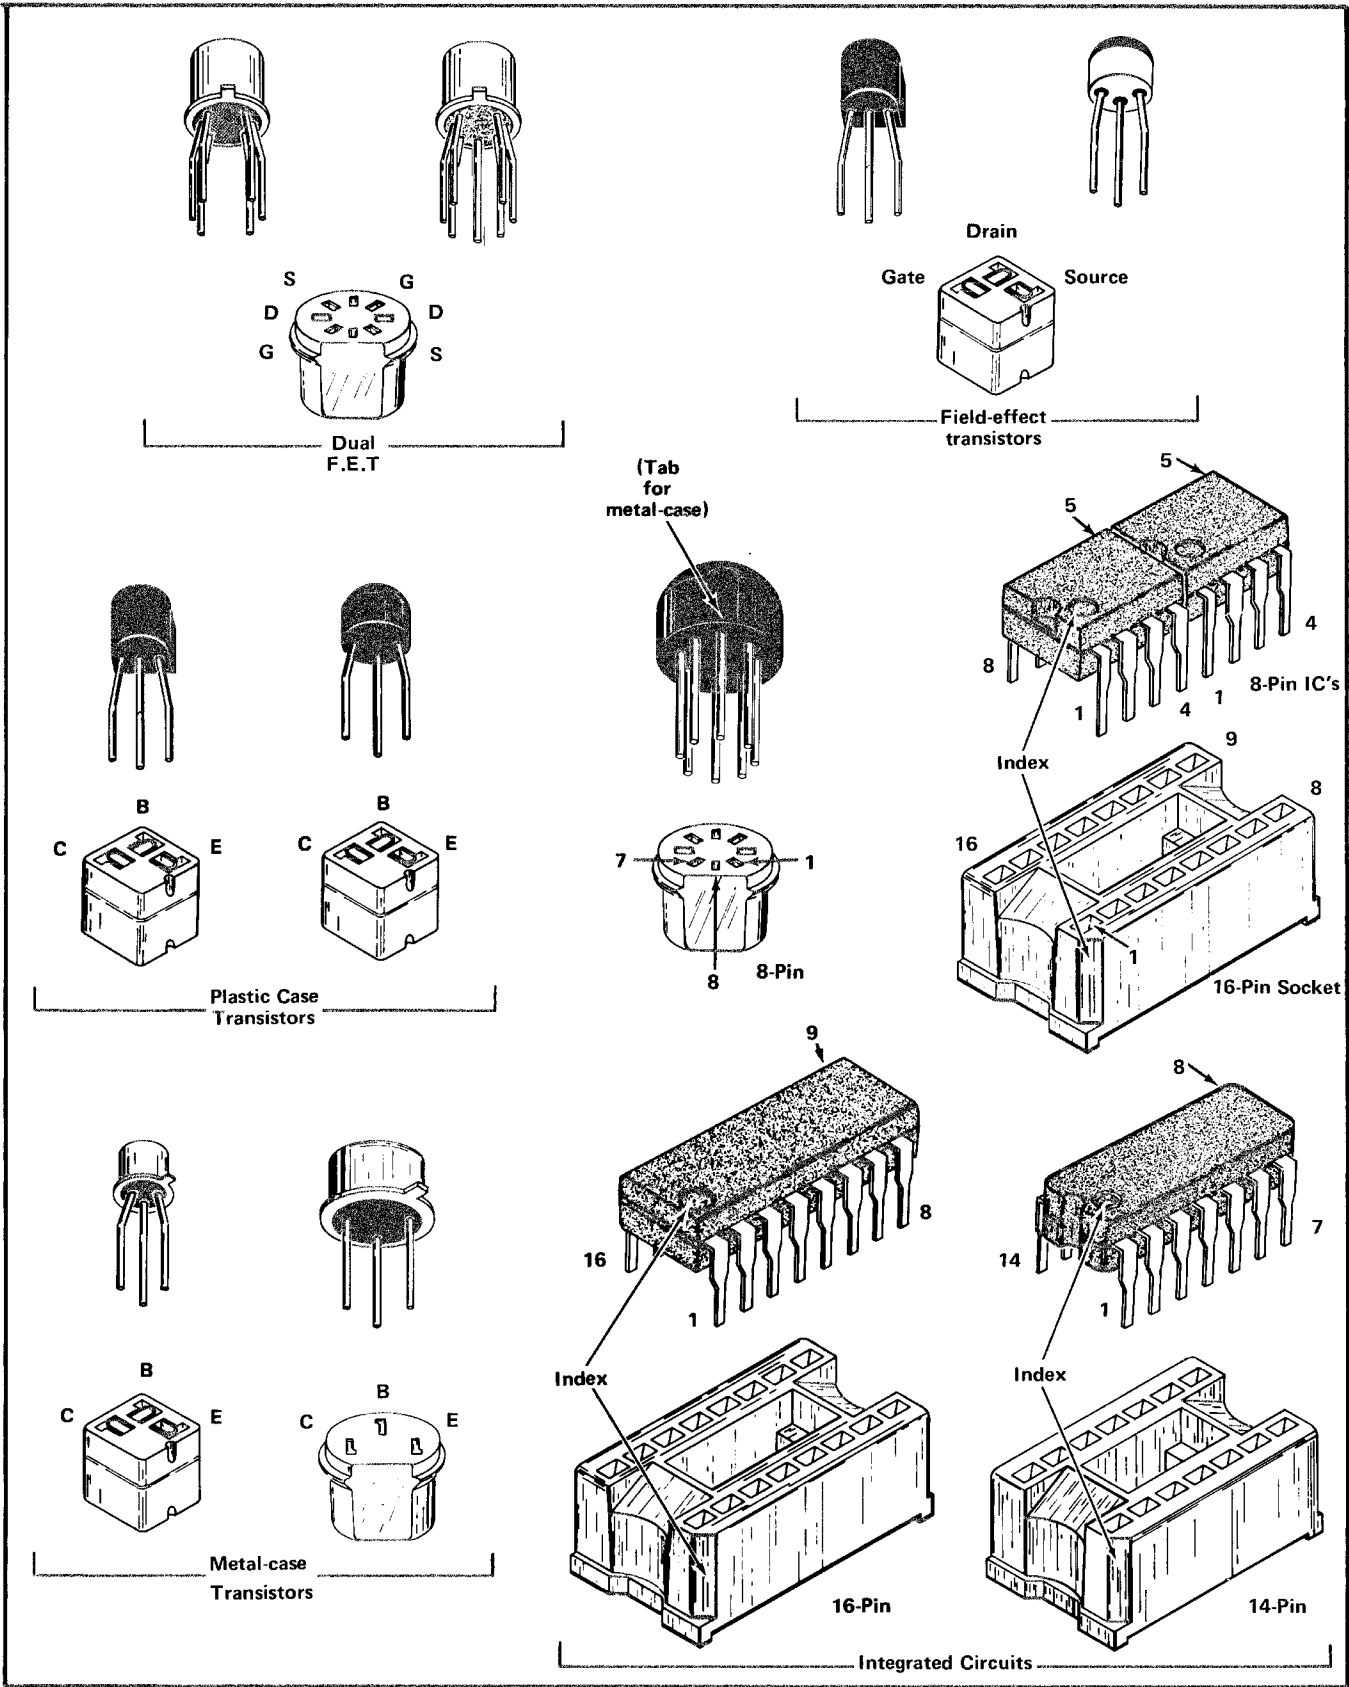

Fig. 4-1. Electrode configuration for semiconductors used in this instrument.
**Semiconductor Lead Configuration.** Fig. 4-1 shows the lead configuration of the semiconductor devices used in this instrument.
**A. TRANSISTORS AND INTEGRATED CIRCUITS.** The best check of transistor and integrated circuit operation is actual performance under operating conditions. If a transistor or integrated circuit is suspected of being defective, it can best be checked by substituting a component known to be good; however, be sure that circuit conditions are not such that a replacement might also be damaged. If substituting transistors are not available, use a dynamic tester (such as Tektronix Type 576). Static-type testers may be used, but since they do not check operation under simulated operating conditions, some defects may go unnoticed. Fig. 4-1 shows base pin and socket arrangements of semiconductor devices. Be sure the power is off before attempting to remove or replace any transistor or integrated circuit.